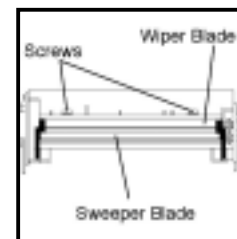

Figure 4
7. Remove wiper blade (2 screws Fig. 4).